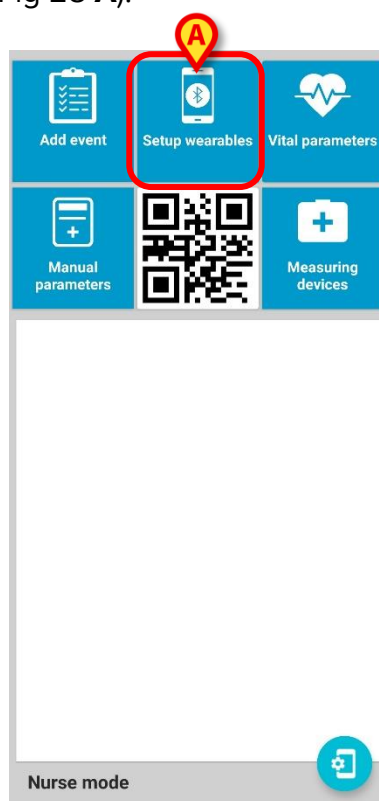

Fig 28
- Open the Digistat Gateway application in “Nurse mode” on the mobile device. Tap the **Setup Wearable** button (Fig 28 A).